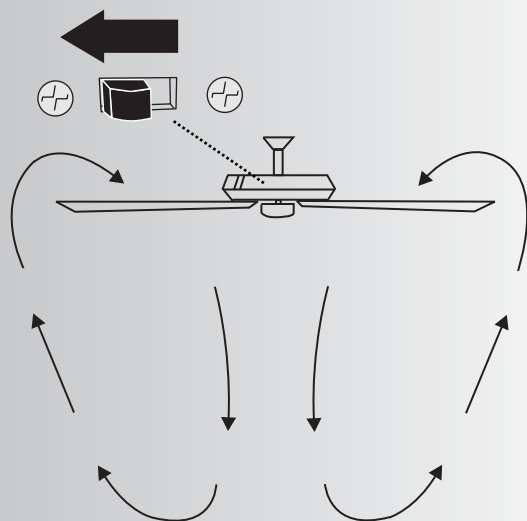

Fig. 23
**Warm Weather Operation:** Forward (counter clockwise) A downward airflow creates a cooling effect as shown in Fig. 23. This allows you to set your air conditioner on a warmer setting without affecting your general comfort.